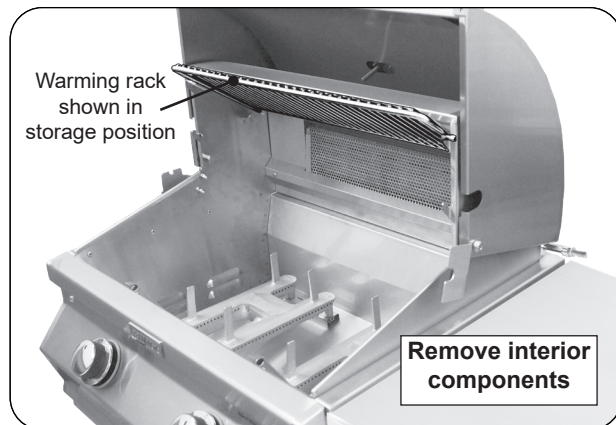

Fig. 39-1 Prepare grill for rotissing
1. On the gas side of the grill, set the warming rack to storage position, remove the backburner cover and cooking grids (see Fig. 39-1).